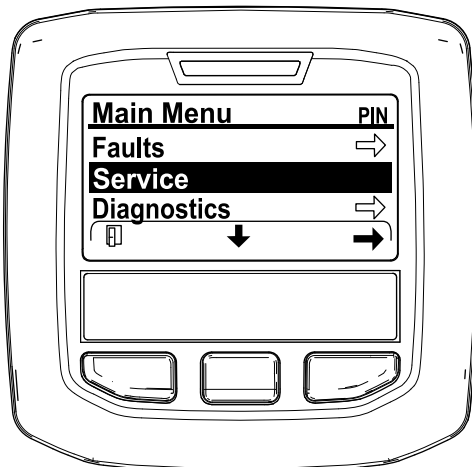

Figure 44
2. Navigate to the MAIN MENU, press the center button to scroll down to the SERVICE MENU, and press the right button to select the SERVICE option (Figure 44).